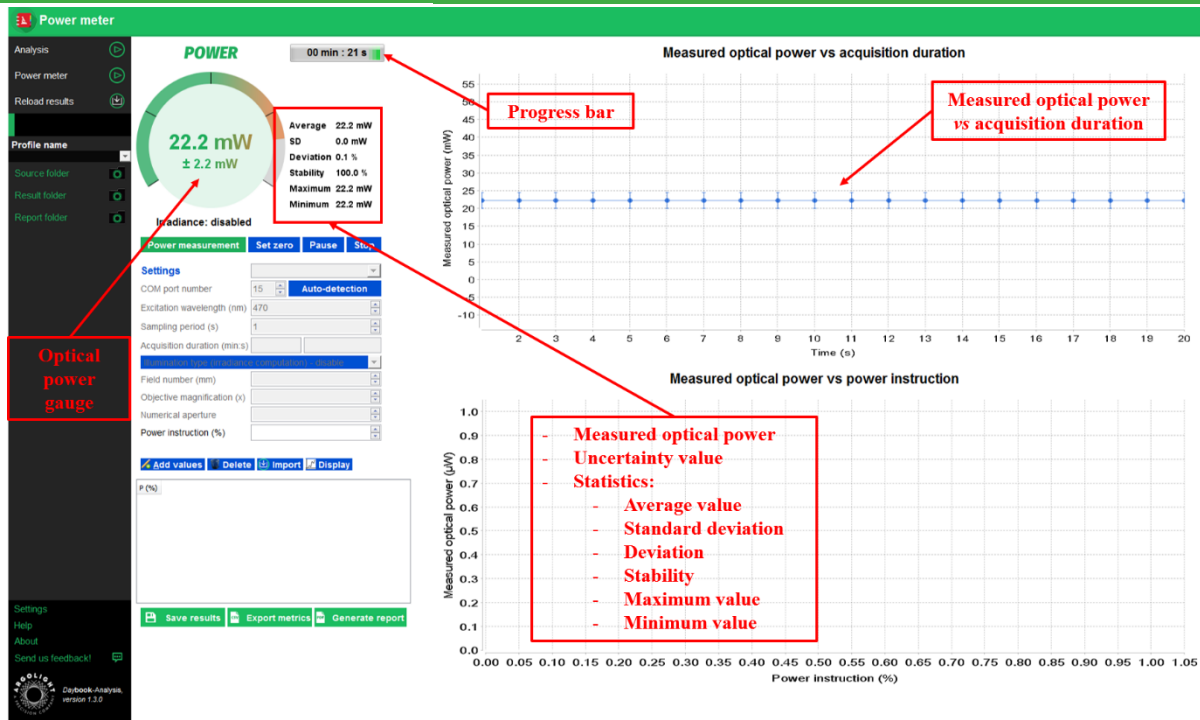

Figure 7: Live optical power measurement.
- Adjust the focus until the highest optical power is measured. This indicates that the sensor is at the focal plane of the microscope objective (cf. Figure 7).
Statistics/metrics are displayed on the right of the gauge (cf. Figure 7):